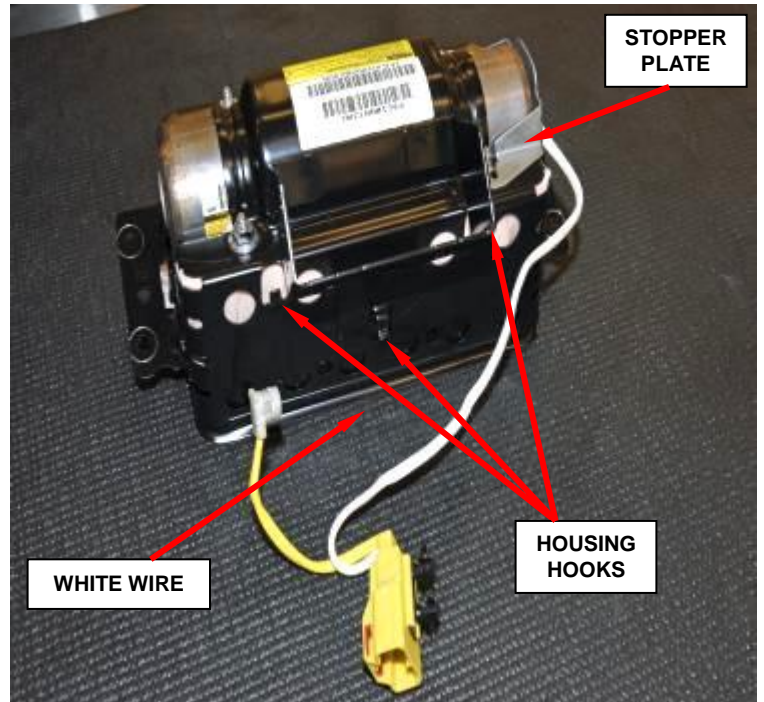

Figure 40 – White Wire Harness
- d. Release the white wire from the three housing hooks (Figure 40).